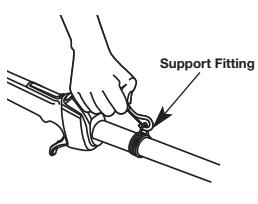

Fig. 3
3. Put the harness on over head and onto shoulder. Snap it on to the support fitting (Fig. 3).